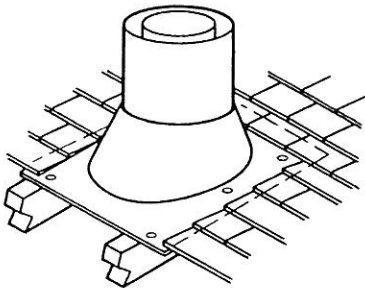

Figure 30
**Step 7.** Secure flashing by nailing along the perimeter into roof using 8d nails. If shingled roof, slide upper end and sides of roof flashing under shingles (trim if necessary), seal the top and both sides of the flashing to the roof with roof caulking. Cover nail heads with roof caulking (Figure 30).